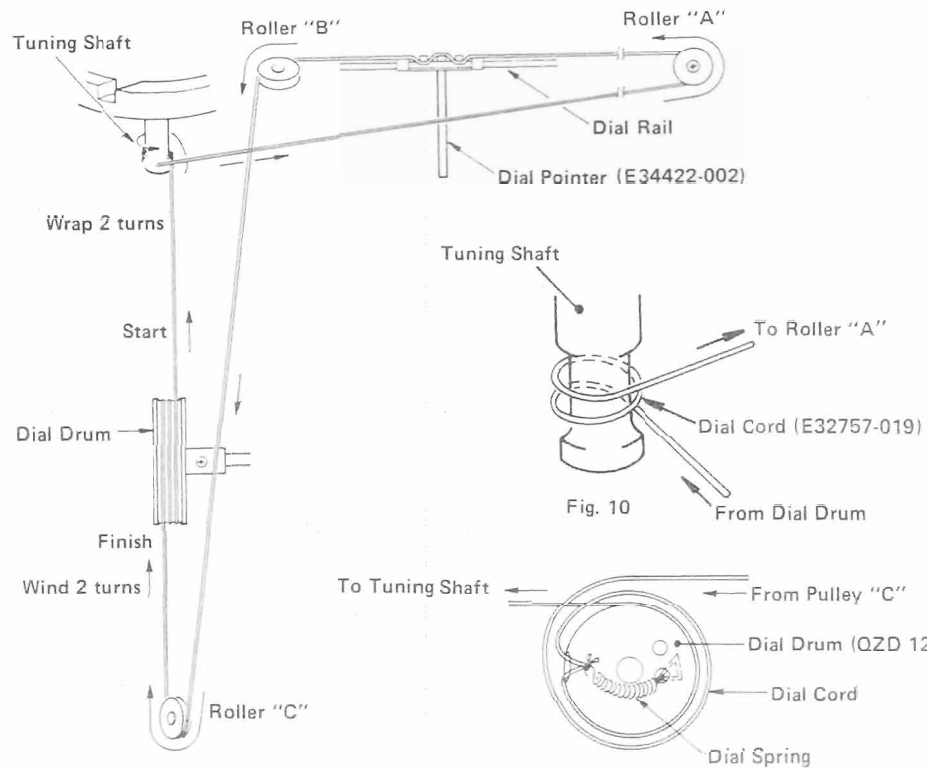
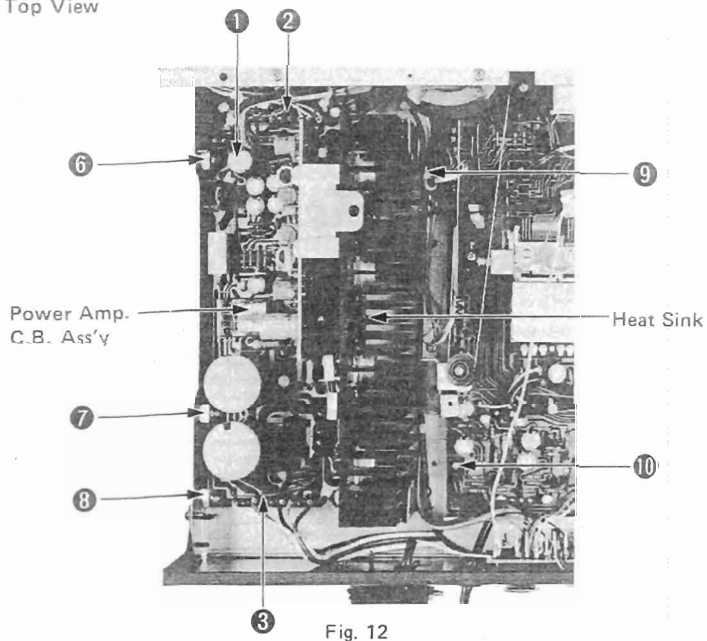

Fig. 11
Fig. 12
**Note:** Refer to Fig. 11 of the dial stringing procedure on page 7 when replacing the dial pointer onto the dial rail.
- (1) Remove heat sink and power supply amp. C.B. ass'y, see Figs. 12 & 13.
- (2) Remove dial pointer and old dial cord.
- (3) Tie end of new dial cord to one end of dial spring, connect other end of dial spring of bottom right eye inside dial drum, see Fig. 11.
- (4) Rotate the tuning capacitor dial drum to its maximum clockwise.
- (5) Run the dial cord through the slot in the rim of the dial drum.
- (7) Guide the dial cord under and around roller "A", around rollers "B" and "C". Keep the dial cord taut during this procedure.
- (8) Guide the dial cord over the dial drum and wind 2 turns counterclockwise. See Fig. 11.
- (9) Turn the tuning shaft to rotate the dial drum fully counterclockwise and fully clockwise to distribute the tensioning along the dial cord.
- (10) Place the dial cord over and under the tabs on the rear of the dial pointer (see detail) and place the pointer on the top of the dial panel rail.
- (11) Turn the tuning shaft clockwise. Slide the dial pointer to zero (0) calibration marker on the logging scale while holding tuning shaft fully clockwise. Cement the dial pointer to dial cord to prevent slippage. Allow cement to dry thoroughly.